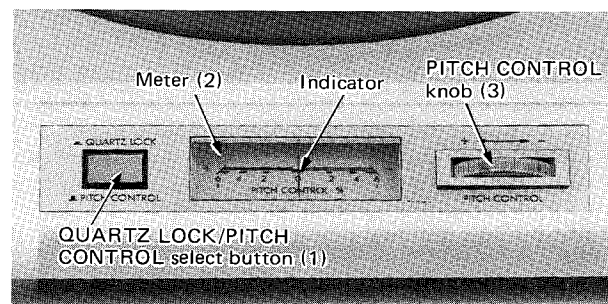

Fig. 7-A
**How to make adjustments if the pitch control meter should indicate incorrectly (when the meter does not display "0" in the QUARTZ LOCK operation). (See Fig. 7-B)**